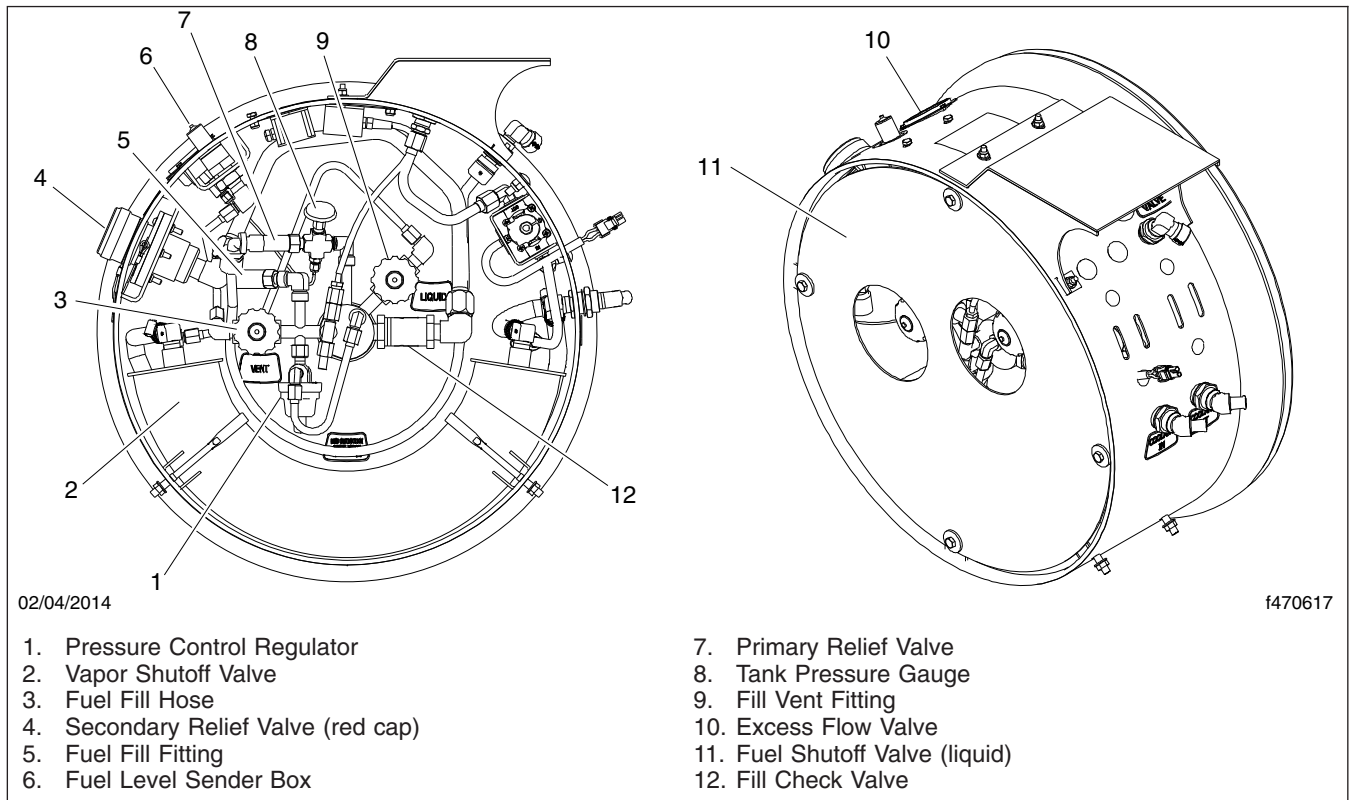

Fig. 9, LNG Tank Plumbing Components
See Fig. 9 for fuel tank and shroud component locations.
See Fig. 9 for plumbing component locations.
2. Inspect the fuel level sender box (Fig. 9) for signs of leaks or damage. Ensure that the retainer clips are installed on the mounting ears.
- 2. Check the fuel tank pressure gauge (Fig. 9, Item 8) to ensure that pressure is within the normal range of 120 to 150 psi (827 to 1034 kPa).